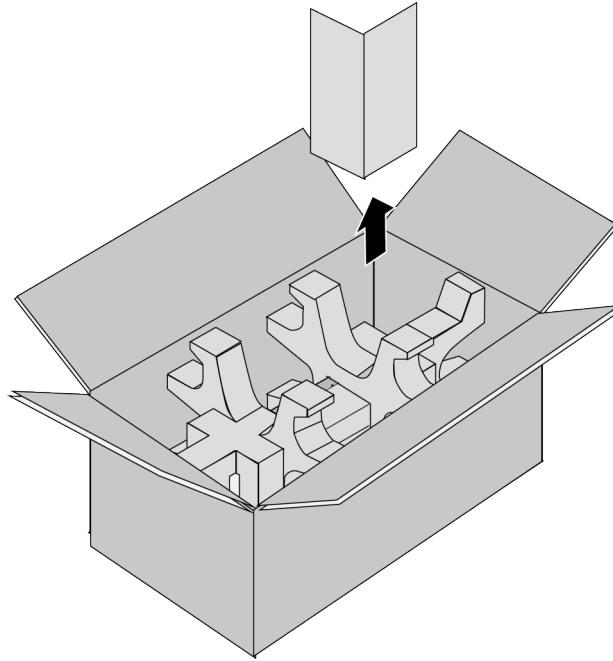

Figure 52. Removing the Partition from the PWR600 AC Power Supply Shipping Box
2. Remove the partition from the shipping box. Refer to Figure 52 on page 112.